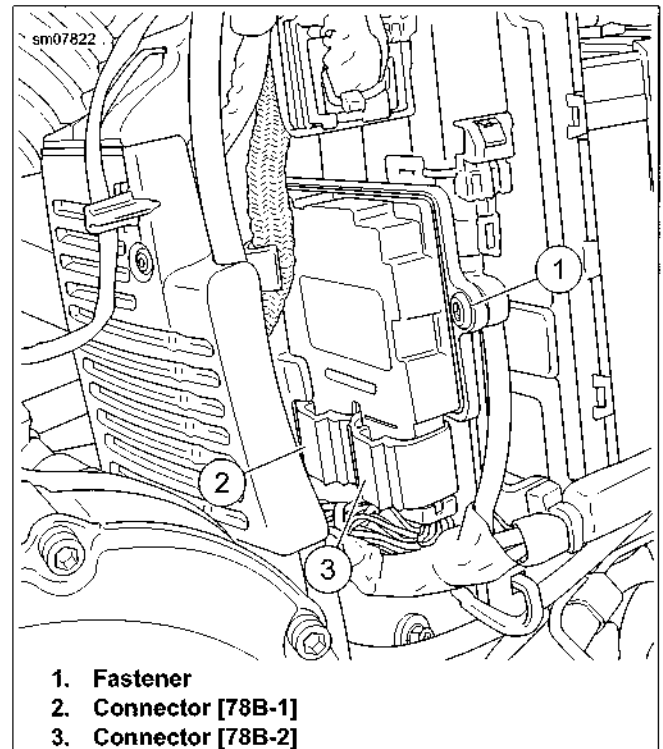

Figure 6-7. Electronic Control Module (ECM)
4. See Figure 6-7. Remove ECM fastener (1).
6. Remove connector [78B-1] housing (2).
7. Remove connector [78B-2] housing (3).